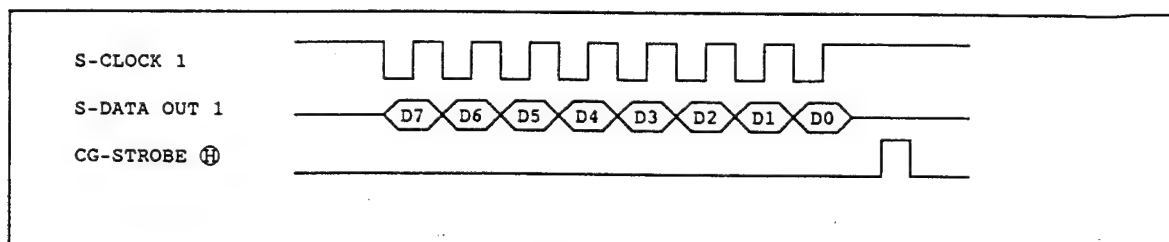

Figure I-27
Every 500 microseconds or so, IC 608 (MAIN MI-COM) checks whether no serial communication proceeds and, if so, sends appropriate data to IC 209 (CHAR.GEN.) with the timing shown in Figure I-27. IC 209 (CHAR.GEN.) will judge the data to be valid if it is followed by the CG-STROBE (H) signal.